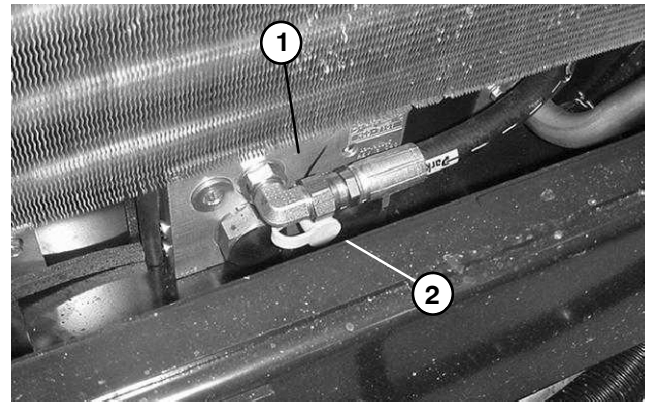

Figure 33
3. Connect a 1000 PSI gauge to test port on 2WD/4WD control manifold under radiator (Fig. 33).